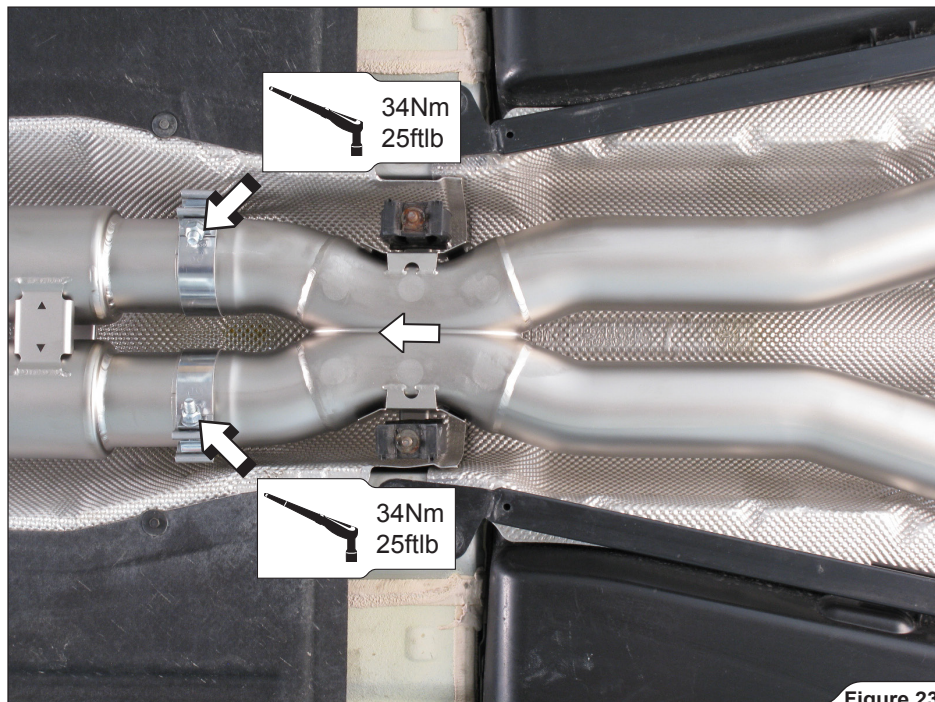

Figure 23
5. Slide the collector all the way onto the link pipes and tighten the clamps (Figure 23).